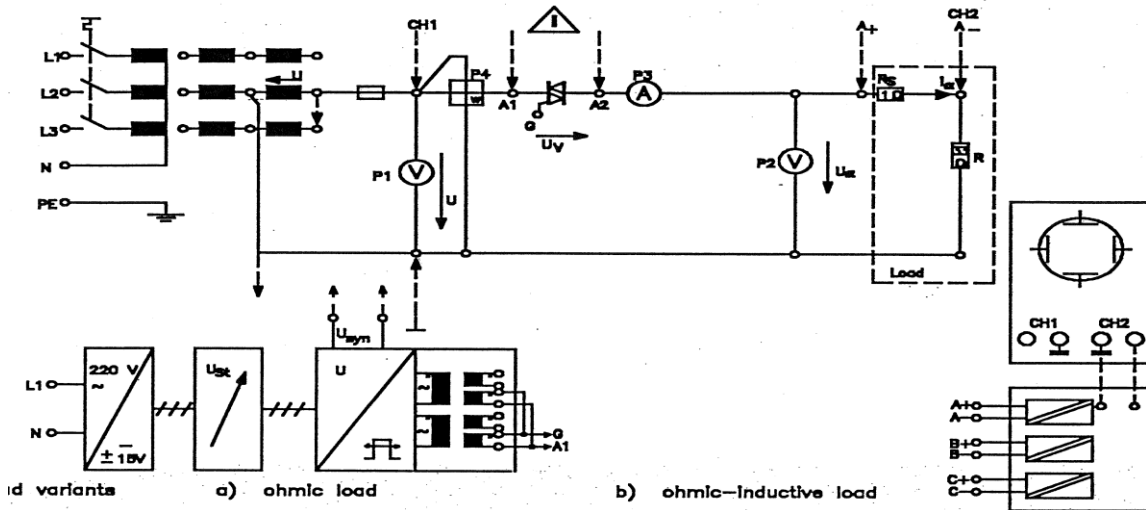

Figure 2 Triac AC controller
- Make the correct panel arrangement for the experiment and use the circuit shown in Figure 2.
- Connect the power circuit as shown in Figure 2, while using the supply voltage equal to 45V and a load made up of a resistance of 33 Ω, (three 100 Ω resistance connected in parallel).